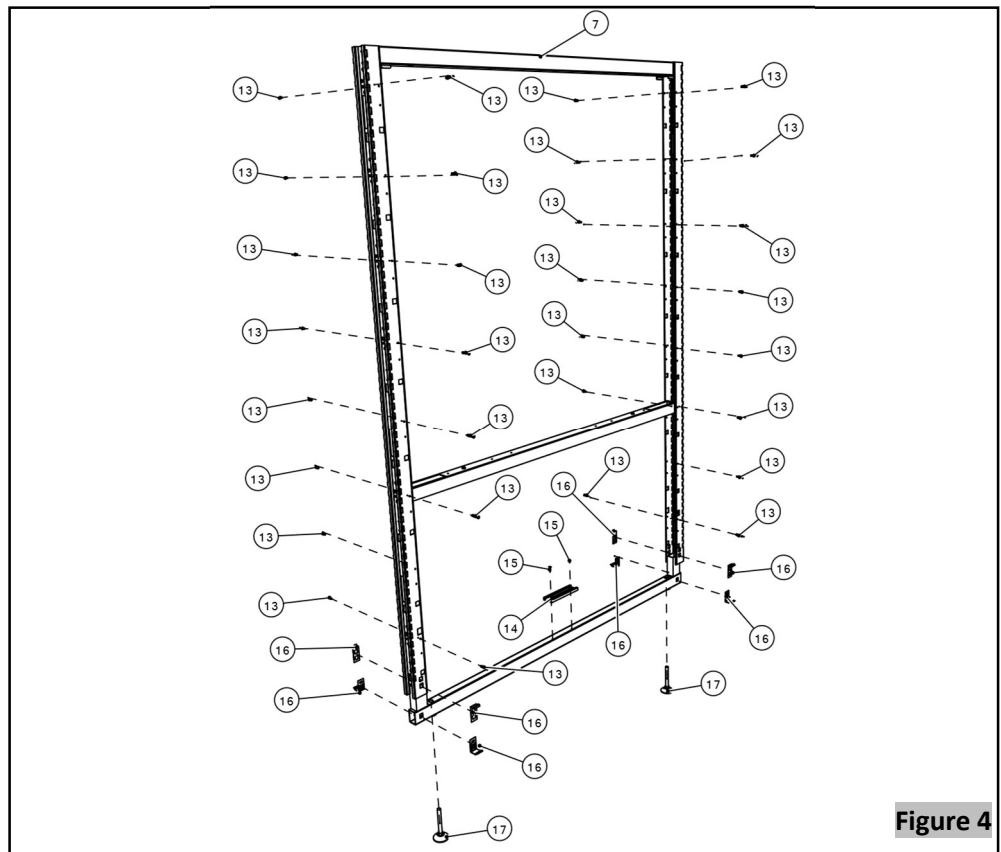

Figure 4
4. Lay the cables in the power pole. Clip the two halves of the power pole together (Figure 4).
- 13.** Remove the screws ⁽¹³⁾ of the steel frame ⁽⁷⁾, **Figure 4** and place them in the recycle bin containing steel materials.